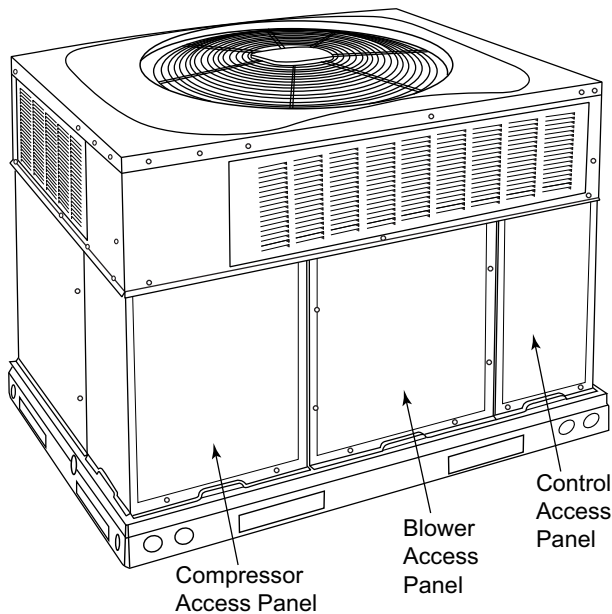

Fig. 21 – Unit Access Panels
- a. Remove blower access panel (see Fig. 21).
- g. Reinstall blower access panel (see Fig. 21).
1. Remove control access panel (See Fig. 21).
Remove blower access panel (see Fig. 21). Limit switch(es) are located on the fan partition.
3. Remove control access panel (See Fig. 21).
Remove access panels (see Fig. 21) to locate all the electrical controls and wiring. Check all electrical connections for tightness. Tighten all screw connections. If any smoky or burned connections are noticed, disassemble the connection, clean all the parts, re-strip the wire end and reassemble the connection properly and securely.